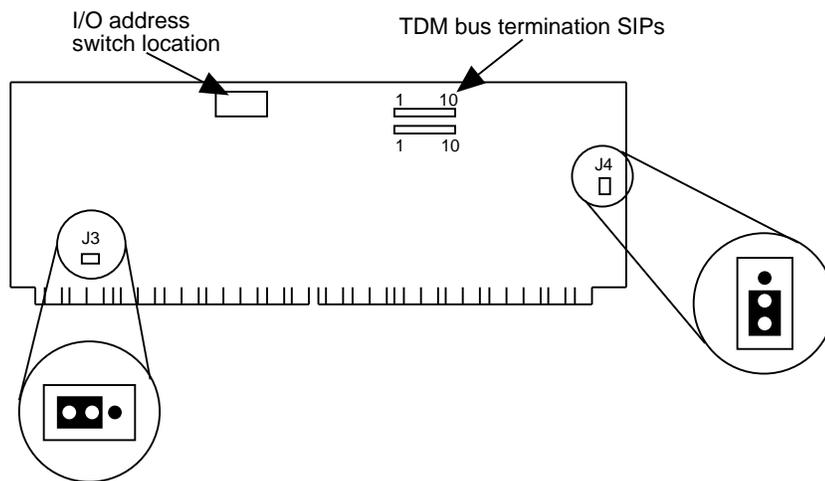

Figure 7-19. Location of Jumpers and Switches on the Signal Processor Circuit Card (ACY2B only)
- AYC2B — see Figure 7-19
The two jumpers on the AY2B SP circuit card are preset at the factory. However, before you install these cards, ensure that the jumpers are set as shown in Figure 7-19.